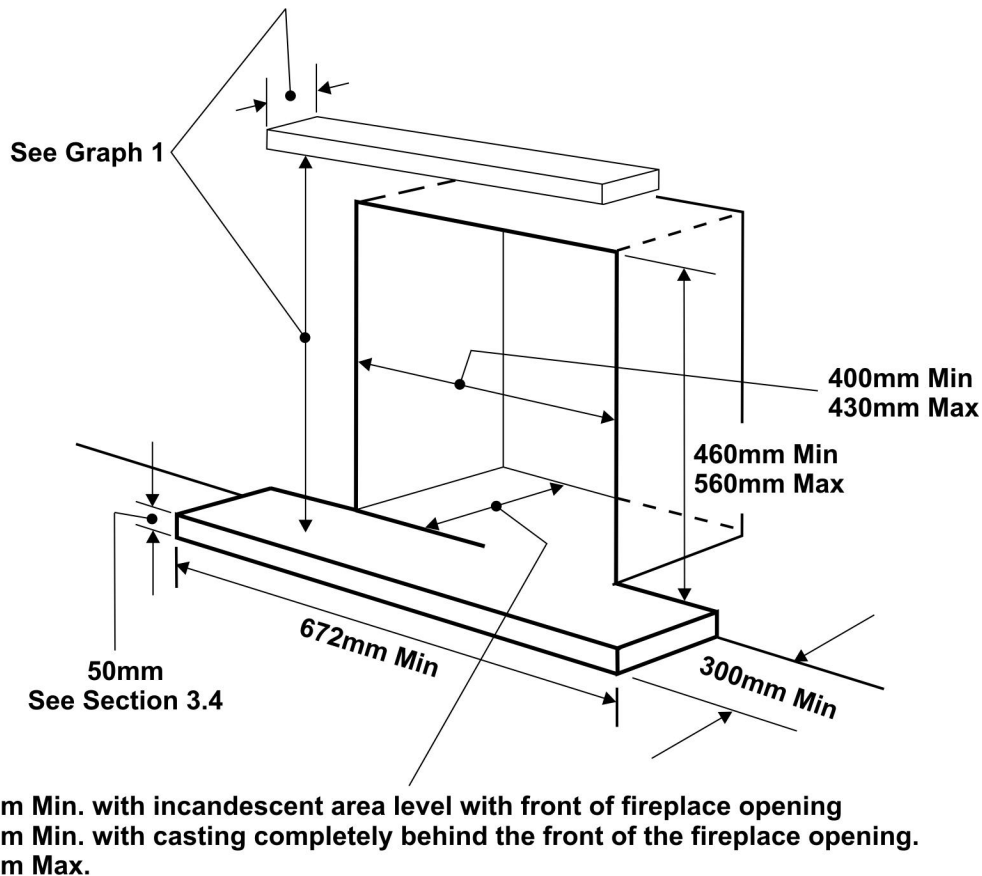

Figure 1. Hearth and fireplace opening.
- To a fireplace complete with surround and hearth as shown in figure 1 and complying with BS1251. The required fireplace, hearth, and clearance dimensions are shown in figure 1.
3.4 The appliance must be mounted behind a non-combustible hearth (N.B. conglomerate marble hearths are considered as non-combustible). The appliance can be fitted to a minimum class “O” – 100°C surround. The hearth material must be at least 12mm thick. The periphery of the hearth (or fender) should be at least 50mm above floor level to discourage the placing of carpets or rugs over it (See figure 1). The surface of the hearth must be sufficiently flat to enable the bottom of the front surround and the bottom front cover to be aligned horizontally. Any excessive unevenness (uneven tiles, Cotswold stone, etc.) should be rectified.
It is recommended that a hearth should be installed as in figure 1.